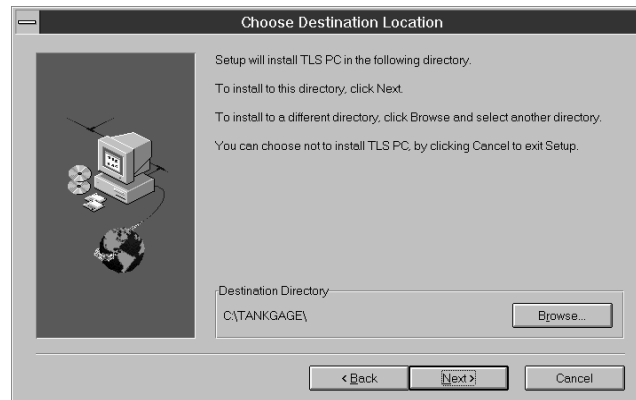
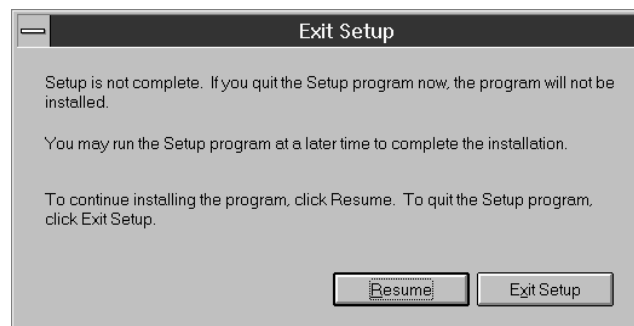

Figure 5. Choose Destination Location Screen
Figure 6. Exit Setup Screen
4. The Choose Destination Screen appears [Figure 5]. Follow the instructions to choose the directory in which you want to install TLS-PC. The default directory is c:\TANKGAGE. If this location suits you, click on the **Next>** button to begin the TLS-PC installation.
6. Clicking on the **Exit Setup** button stops the TLS-PC installation [Figure 6].
7. Click on the **Resume** button to continue the TLS-PC installation [Figure 6]. The Choose Destination Location Screen reappears [Figure 5].